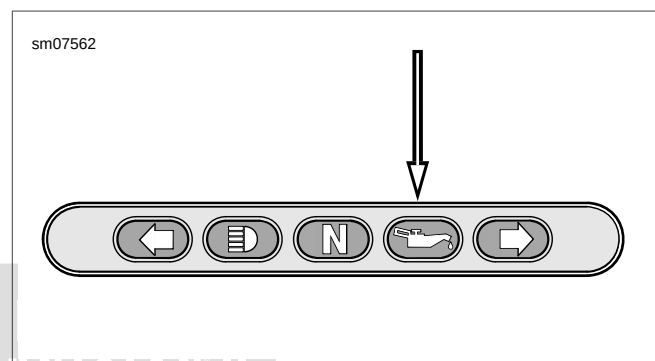

Figure 1-8. Oil Pressure Indicator
3. See Figure 1-8. Start engine. Verify that oil pressure signal lamp turns off when engine speed is 1000 rpm or above. Turn engine off.